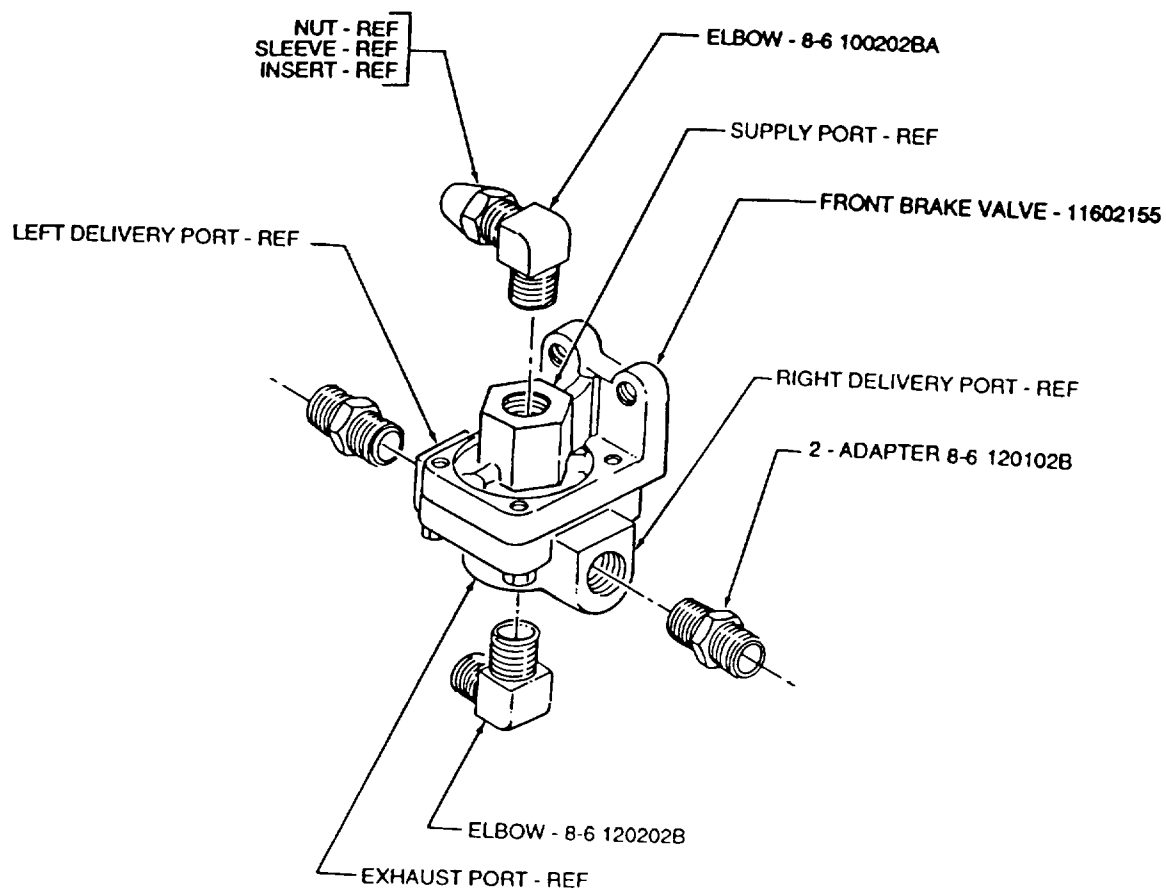

FIGURE 2
(1) Remove nut, insert, and sleeve from 8-6 100202BA elbow. Apply 592-31 pipe sealant to threads on elbow and install into supply port of 11602155 front brake valve as shown in figure 2.
(2) Apply pipe sealant to threads on 8-6 120202B elbow and install into exhaust port of front brake valve as shown in figure 2.
(3) Apply pipe sealant to threads on two 8-6 120102B adapters and install into left and right delivery ports of front brake valve as shown in figure 2.